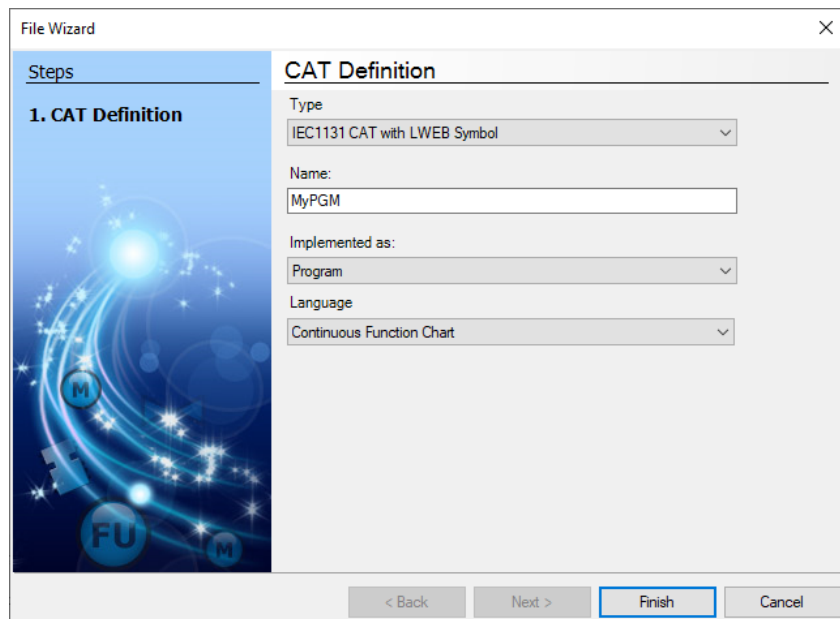

Figure 44: Create a 61131 program CAT.
4. Create a 61131 program CAT: In the 'KickStart' solution tree, select **CAT** → **Application**. Then right-click and choose **New Item**. Select IEC61131 CAT, enter a name, and select **Program** as implementation and **Continuous Function Chart**. Then click **Finish** as shown in Figure 44.